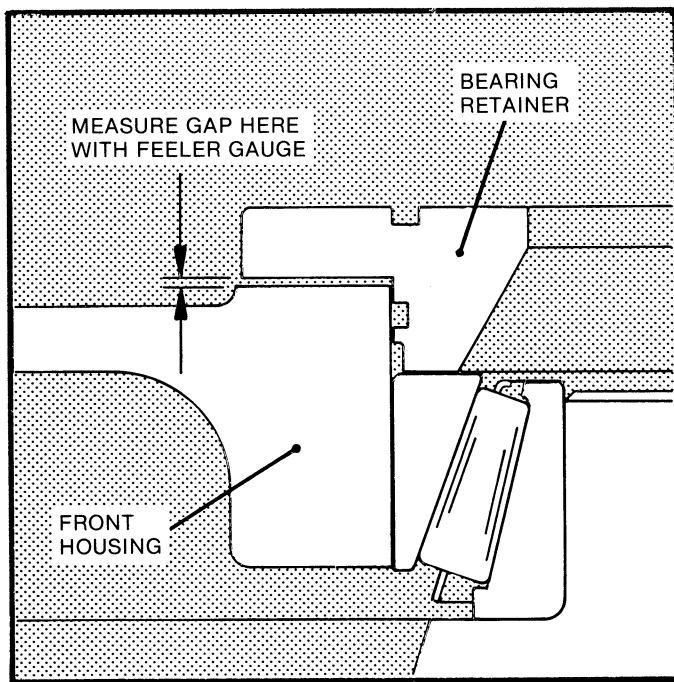

Figure 9-7. Measuring Gap Between Bearing Retainer and Front Housing.
b. Secure the retainer with three equally spaced screws (1), finger tightened.
c. Determine the established shim pack by measuring the gap between the bearing retainer and the front housing. Measure in three places and average the measurements. Add 0.0025 inch to determine estimated shim pack. See Figure 9-7.